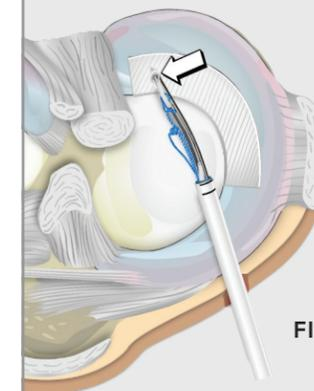

FIG. 8A.
- The curved delivery needle is aimed to enter mid-width of the CMI implant with the inner curve of the needle pointed towards the posterior horn. **FIG 8A**